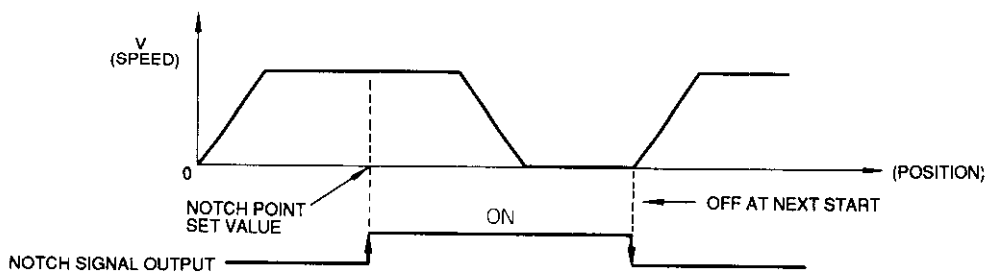

Fig. 3.14 Typical Passing Point Detection Function
(2) Passing Point Detection Function Basic Pattern
- (a) Fig. 3.14 shows the basic pattern of passing point detection function.